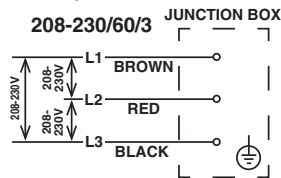

Fig. 3b
- On three phase models, the transformer's voltage tap switch must be positioned to match incoming voltage at startup. See Fig. 3b.